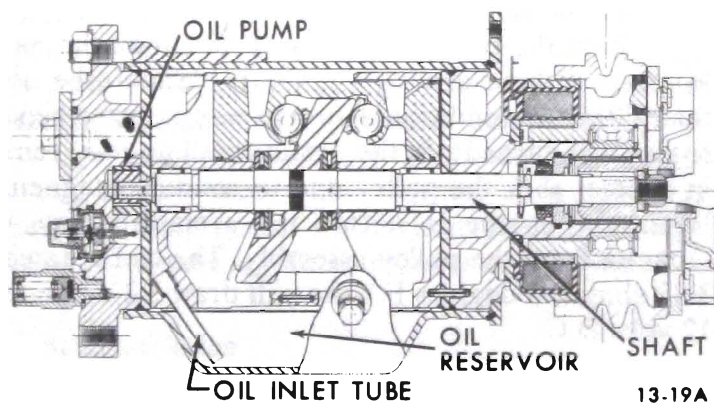

Figure 13-4 Compressor Oil Flow
3. Oil Pump - An internal tooth outer rotor and external tooth inner rotor comprise the oil pump. The pump works on the principle of a rotary type pump. Oil is drawn up from oil reservoir in underside of shell through the oil inlet tube (see Figure 13-4) and circulated through the system via a 3/16 inch diameter oil passage through the shaft center and also four 5/64 inch diameter holes drilled perpendicular to the shaft. The inner rotor is driven by the shaft.